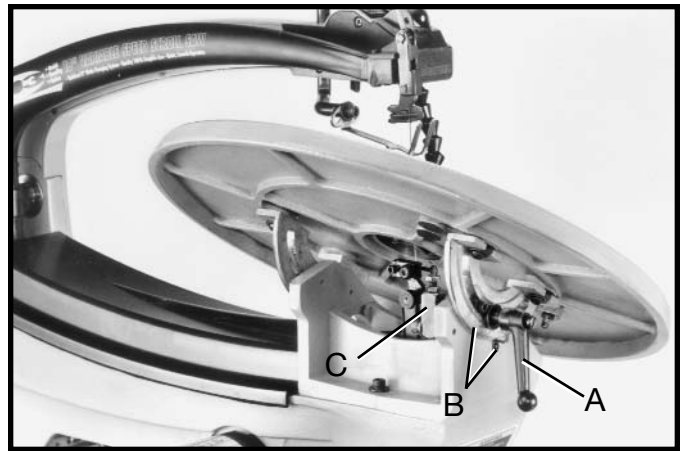
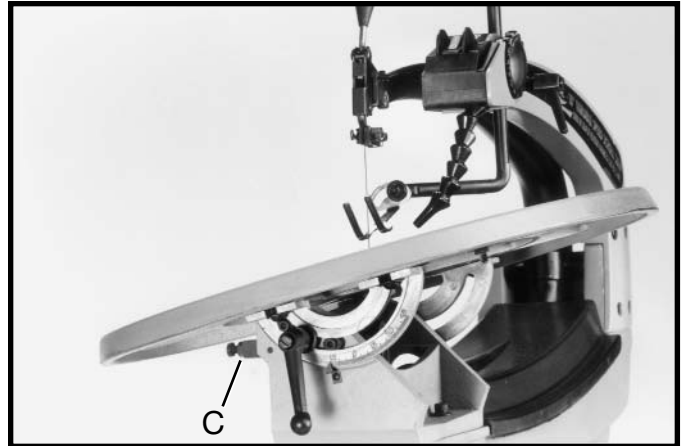

Fig. 27
Fig. 28
1. The table on your scroll saw can be tilted up to 45 degrees to the right for bevel cutting operations by loosening table lock handle (A) Fig. 27. Tilt the table to the desired angle and tighten lock handle (A). A scale and pointer (B) Fig. 27, is provided to determine the angle of tilt.
2. The table can also be tilted up to 15 degrees to the left for bevel cutting operations by lowering the stop block (C) Fig. 27, and tilting the table to the desired angle, as shown in Fig. 28. Tighten lock handle (A).